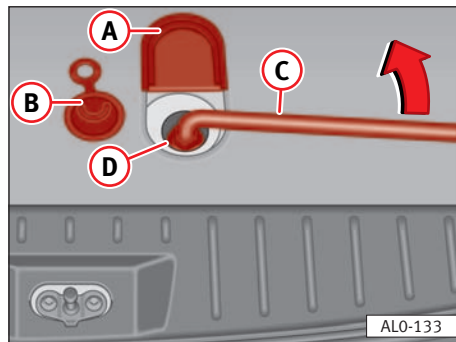

Fig. 171
- Fold the small cover (A) in the luggage compartment floor near tailgate lock in the luggage compartment floor forwards ⇒ fig. 171. ►
- Remove the rubber seal ⇒ fig. 171 Ⓑ on the eyelet upwards.
- Take the wheel spanner ⇒ fig. 171 Ⓒ from the vehicle tools. Place it as far as it will go over the bolt. Hold in this position and press the locking ring ⇒ fig. 171 Ⓓ down.
- Turn the box spanner Ⓒ to the left until it is supporting the spare wheel, which is suspended from a steel cable ⇒ fig. 171.